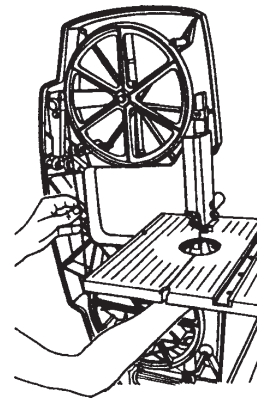

Fig. B-26
8. Slide the new blade into position, working it up through the table slot, around the guard, and onto the wheels, as seen in Fig. B-26. The teeth must be pointing down and toward the front of the Bandsaw (and toward you). Position the blade approximately in the center of the rubber tires and in between the guide blocks.